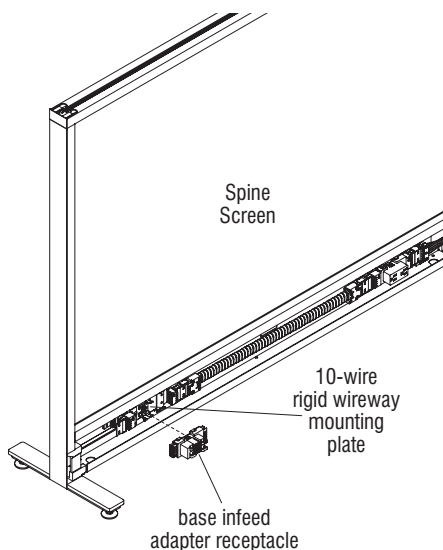

Figure 19
1. Position the base infeed adapter receptacle on the end of the 10-wire rigid wireway where the base power infeed is received, matching the arrow at the "N" symbol facing up (Figure 19 & Detail AA).